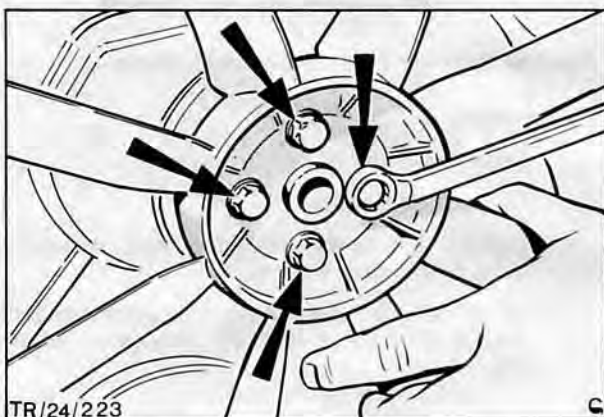

Fig. 38. Arrows depict four fan securing bolts
7. Remove four securing bolts and detach fan and pulley from water pump hub, Fig. 38.